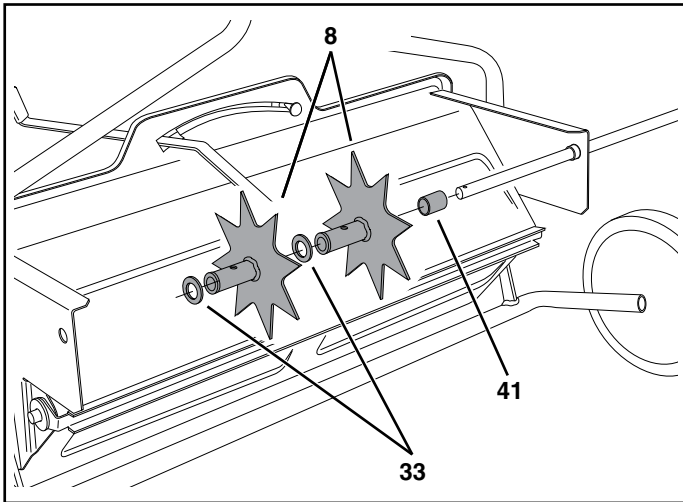

FIGURE 14
- Place a short spacer tube (41), a drive disk (8), a 5/8" flat washer (33), another drive disk and a second 5/8" flat washer onto the shaft. Fit the short spacer tube onto the flanged bearing in the end plate. See figure 14.